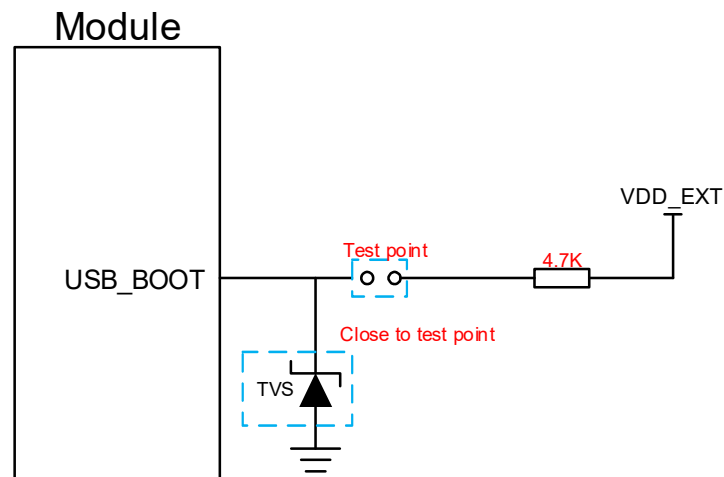

Figure 28: Reference Circuit of USB_BOOT Interface
2. When using MCU to control module to enter the emergency download mode, follow the above timing sequence. It is not recommended to pull up USB_BOOT to 1.8 V before powering up VBAT. Short the test points as shown in **Figure 28** can manually force the module to enter download mode.